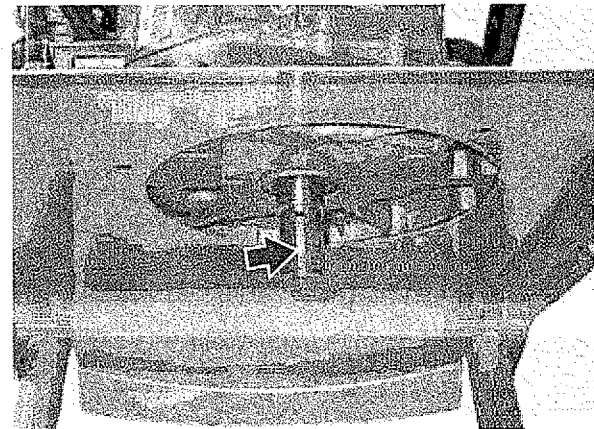

Figure 75 – Key and Crankshaft Keyway
- Inspect the key and keyway on crankshaft (see Figure 75).